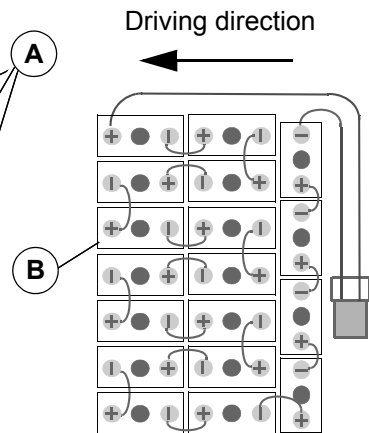

Fig. 27:
5. Hook crane gear into the eyelets of the battery trough **Fig. 27-B**.
Please ensure that the trough battery is in the correct installation position! See connecting diagram **Fig. 27-B**.